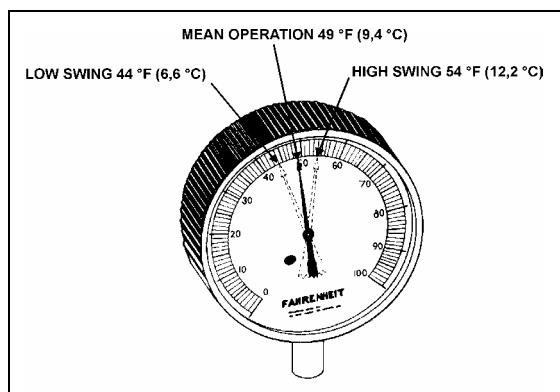

FIGURE 36: HIGH & LOW SWING TEMPERATURE AT REMOTE BULB
6. Check approximately 5 readings of pressure at 2-minute intervals and convert to temperature using the temperatures & pressures table (page 35). Likewise check the temperature reading at the remote bulb at the same 2-minute intervals and record the low and high swing readings of the needle (refer to Fig. 36).
Example of readings taken at fig. 36: